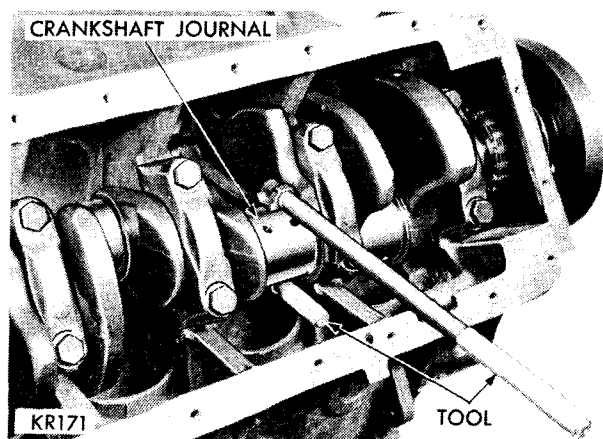

Fig. 43—Installing Connecting Rod
(3) Immerse piston head and rings in clean engine oil, slide ring compressor, Tool C-385, over the piston and tighten with special wrench (part of Tool C-385). **Be sure position of rings does not change during this operation.**
(4) Install connecting rod bolt protectors on rod bolts, the long protector should be installed on the numbered side of the connecting rod.
(5) Rotate crankshaft so that the connecting rod journal is on the center of the cylinder bore. Insert rod and piston into cylinder bore and guide rod over the crankshaft journal (Fig. 43).
(6) Tap piston down in cylinder bore, using handle of a hammer. At the same time, guide connecting rod into position on crankpin journal.
(7) The notch or groove on top of piston must be pointing toward front of engine and larger chamfer of connecting rod bore must be installed toward crank pin journal fillet.
(8) Install rod caps, tighten nuts to 45 foot-pounds.